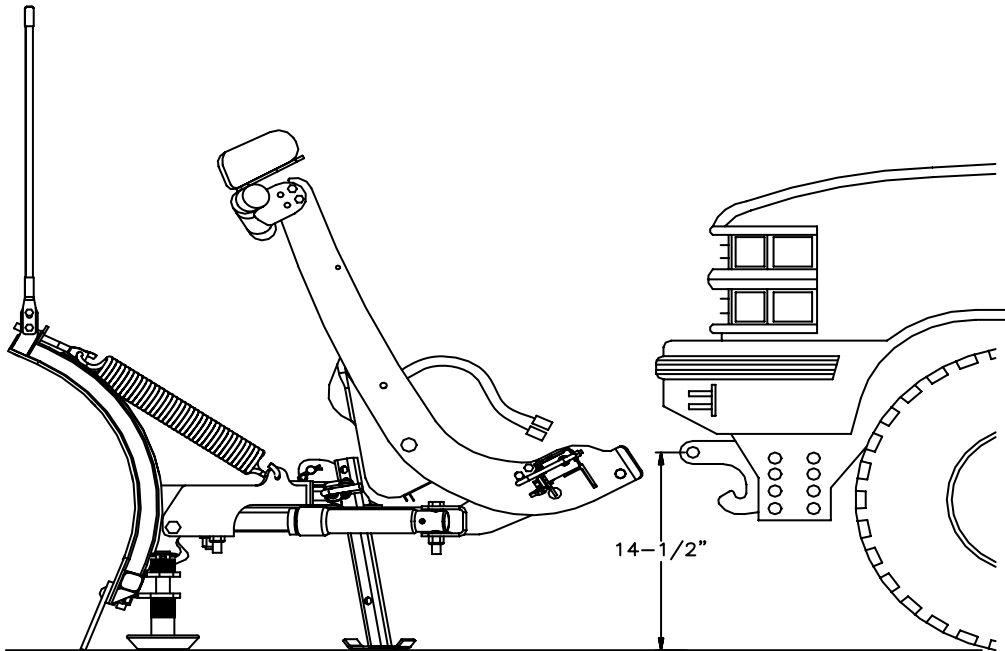

Figure 2
1. Begin by removing the front skid plate (if applicable). There should be (4) bolts connecting the front skid plate to the vehicle. Next, remove the rear skid plate (if applicable). There should be (2) bolts connecting the rear skid plate to the frame. These parts will not be reinstalled for this application but should be retained incase the plow undercarriage is ever removed.
2. Remove the (2) bolts holding each front skid plate bracket to the frame (if applicable). These will be the same bolts connecting the tow hook to the frame. Once the skid plate brackets are removed, reinstall the tow hooks with the OEM hardware. Again, the front skid plate brackets will not be reinstalled but should be retained incase the plow undercarriage is ever removed.
3. Remove the (2) bolts connecting the bumper bracket to the driver side frame rail. DO NOT REMOVE THE BUMPER. Drill out the (2) holes in the frame wall and bumper bracket to 9/16" diameter. Place Driver Side Support Plate (62B) over bumper bracket and attach to frame using two 1/2"-13 x 2" Bolt Bars (101), two 1/2" Split Lock Washers (C), and two 1/2"-13 Regular Nuts (D).
4. With Driver Side Support Plate (62B) in position, drill (1) 9/16" diameter hole in the bottom of the driver side frame rail. Install one 1/2"-13 x 1-1/2" Bolt Bar (102), 1/2" Split Lock Washer (C), and 1/2"-13 Regular Nut (D). DO NOT TIGHTEN HARDWARE.
6. Install Push Beam Assembly (62) between Support Plates (62A & 62B) using eight 1/2"-13 X 1-1/2" Hex Head Bolts (A) and eight 1/2"-13 Lock Nuts (B). For Sport Duty Plow applications, the center of the receiver hole in Push Beam Assembly (62) should be 14-1/2" from the ground (refer to Figure 2). Leave hardware finger tight.
7. Assemble Angle Bracket (75) to the back of Push Beam Assembly (62) using four 1/2"-13 X 1-1/2" Hex Head Bolts (A) and four 1/2"-13 Lock Nuts (B). DO NOT TIGHTEN HARDWARE.
8. Drill out (2) holes in the front cross member to 9/16" diameter for the two rear holes in Angle Bracket (75). Install two 1/2"-13 x 1-1/2" Bolt Bars (102), 1/2" Split Lock Washers (C), and 1/2"-13 Regular Nuts (D).